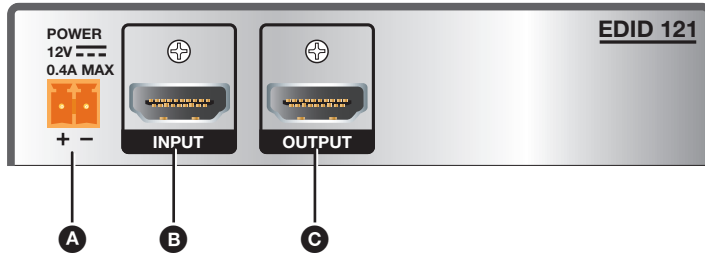

Figure 2. EDID 121 Rear Panel Ports
- **B HDMI input** (see figure 2 on page 5) — Connect an HDMI source to this female HDMI port. The input follows HDMI 2.1 specifications, supporting data rates up to 6.0 Gbps per color and is fully HDCP compliant.
- ③ **HDMI output** (see figure 2 on page 5) — Connect a display or other output device to this female HDMI port.